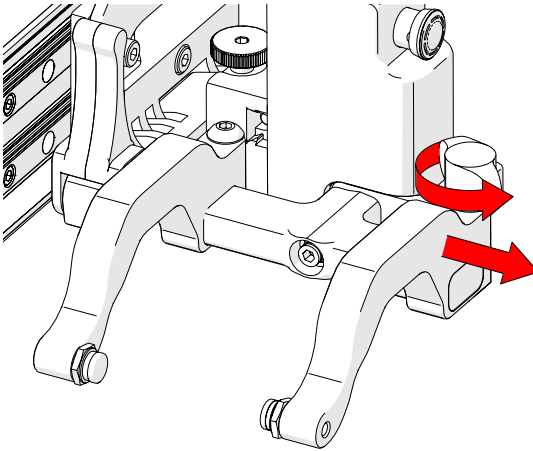

Fig. 156 - Remove outer arm
3. Loosen the probe holder arm adjustment knob and remove the outer probe holder arm (Fig. 156).